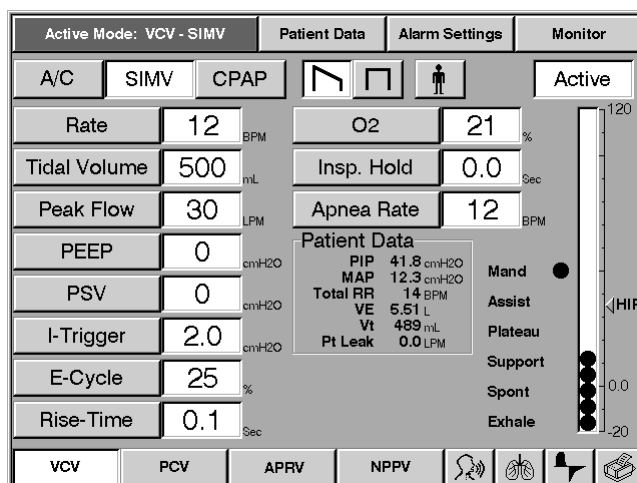
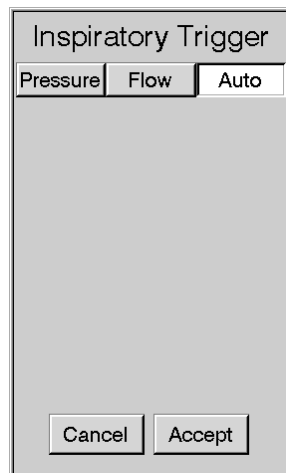
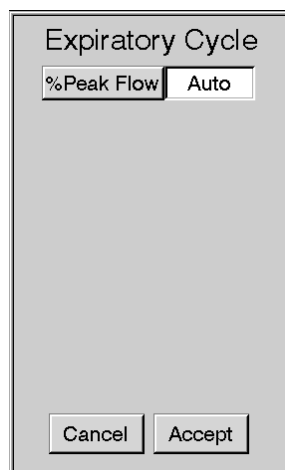

Figure 13-70: Settings Screen
Figure 13-73: Sample Inspiratory Trigger Window with Auto-Trak Option Selected
Figure 13-74: Sample Expiratory Cycle Window with Auto-Trak Option Selected
1. Touch either the I-Trigger or E-Cycle button in the Settings screen (Figure 13-70).
The Pressure or Flow values that previously appeared in the I-Trigger and E-Cycle windows are removed (Figure 13-73 and Figure 13-74).
1. Touch either the I-Trigger or E-Cycle button in the Settings screen (Figure 13-70). The I-Trigger or E-Cycle window will appear as shown in Figure 13-73 or Figure 13-74.
3. Touch the Accept button in the I-Trigger or E-Cycle window. The Settings screen will display the current I-Trigger and E-Cycle values as shown in Figure 13-70.